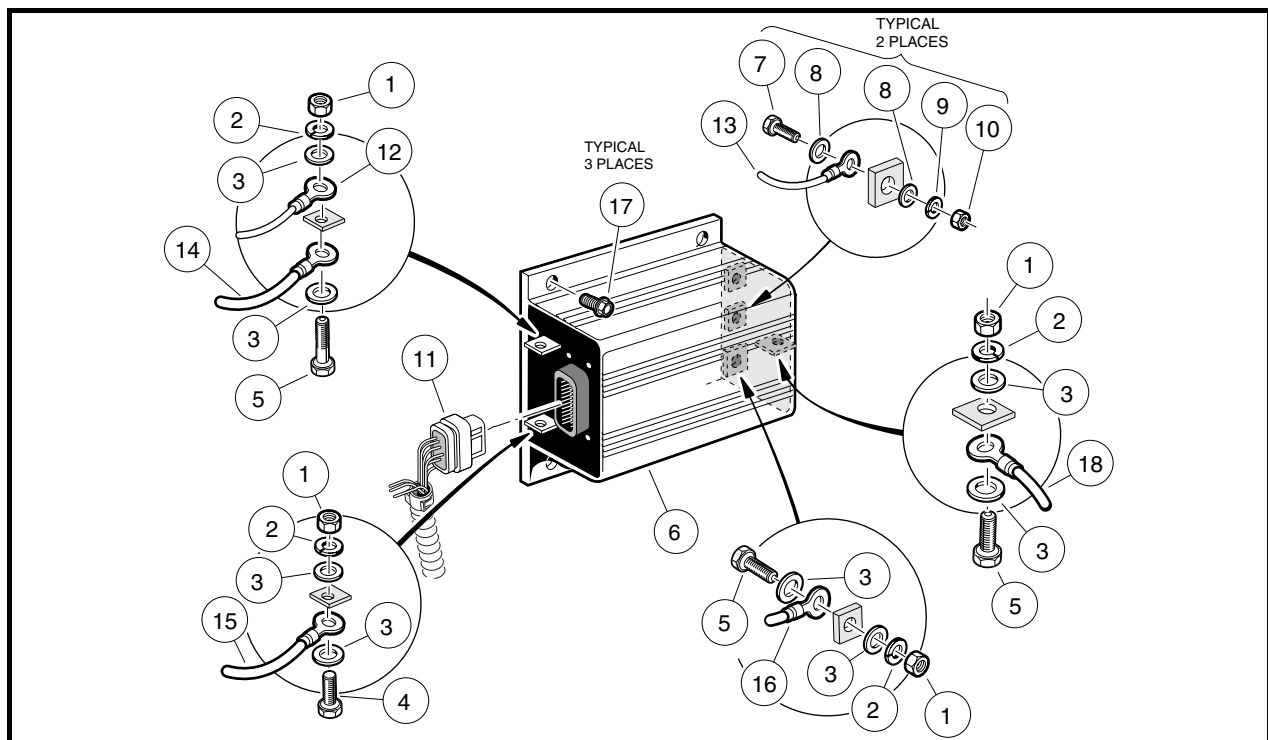

Figure 12-7 Speed Controller
3. Disconnect all wires from the speed controller (6) (**Figure 12-7, Page 12-8**).
4. Remove the three self tapping screws (17) that hold the controller (6) to the component mounting plate and remove the controller from the vehicle (**Figure 12-7, Page 12-8**).
1. Install the three self tapping screws (17) that hold the controller (6) to the component mounting plate and tighten to 60 in.lb (6.7 N-m) (**Figure 12-7, Page 12-8**).
2. Install wires (12, 13, 14, 15, 16 and 18) as illustrated in **Figure 12-7, Page 12-8**. Tighten nuts (1) to 9 ft.lb (12.2 N-m). Tighten nut (10) to 32 in.lb (3.6 N-m). **See Section 11, Figure 11-1, Page 11-2 for wire destinations.**